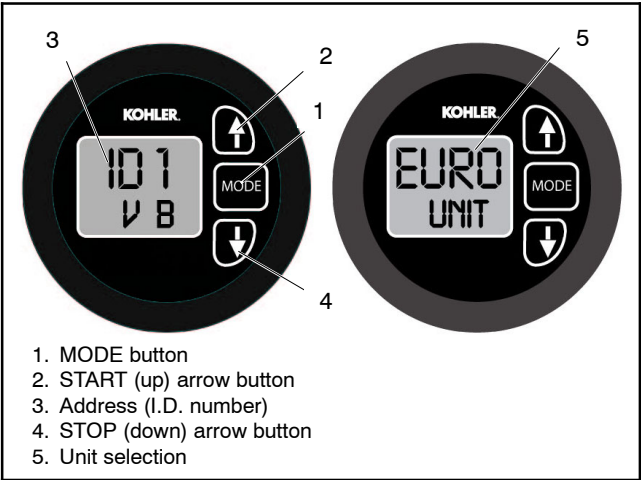

Figure 8 Configuration Menu Displays
- 1. Press and hold the **MODE** button for 5 seconds to enter the configuration menu. See Figure 8.
- 3. Use the **START** arrow (up) button ▲ or **STOP** arrow (down) button ▼ to select English or Metric units. See Figure 8.